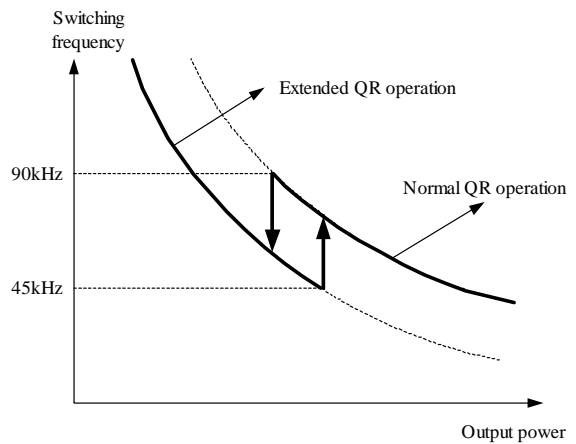
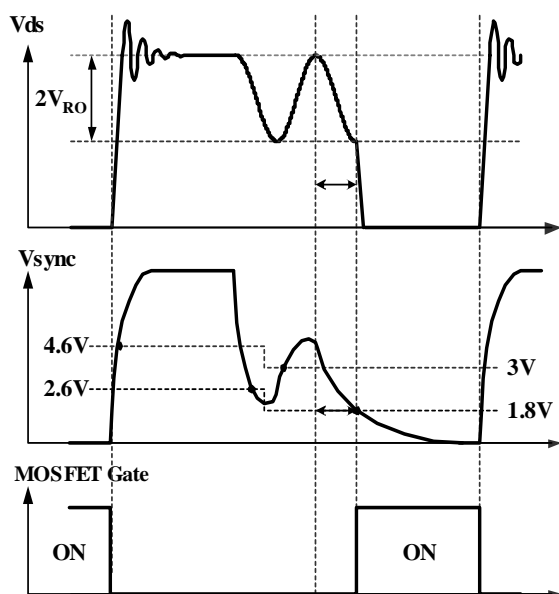
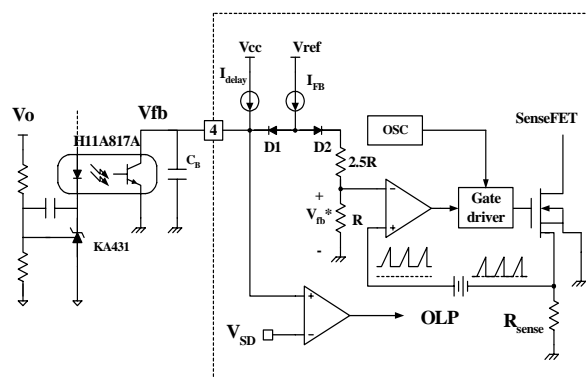

Figure 6. Extended quasi-resonant operation
Figure 7. Extended quasi-resonant operation waveforms
Figure 8. Pulse width modulation (PWM) circuit
2. Synchronization : FSCQ1565RP employs quasi-resonant switching technique to minimize the switching noise and loss. In this technique, a capacitor (Cr) is added between the MOSFET drain and source as shown in Figure 6. The basic waveforms of quasi-resonant converter are shown in Figure 7. The external capacitor lowers the rising slope of drain voltage to reduce the EMI caused when the MOSFET turns off. In order to minimize the MOSFET switching loss, the MOSFET should be turned on when the drain voltage reaches its minimum value as shown in Figure 7.
The minimum drain voltage is indirectly detected by monitoring the Vcc winding voltage as shown in Figure 6 and 8. The voltage divider R_{SY1} and R_{SY2} should be chosen so that the peak voltage of sync signal (V_{sypk}) is lower than the OVP voltage (12V) in order to avoid triggering OVP in normal operation. It is typical to set V_{sypk} to be lower than OVP voltage by 3-4 V. In order to detect the optimum time to turn on MOSFET, the sync capacitor (C_{SY}) should be determined so that T_R is the same with T_Q as shown in Figure 8. The T_R and T_Q are given as, respectively